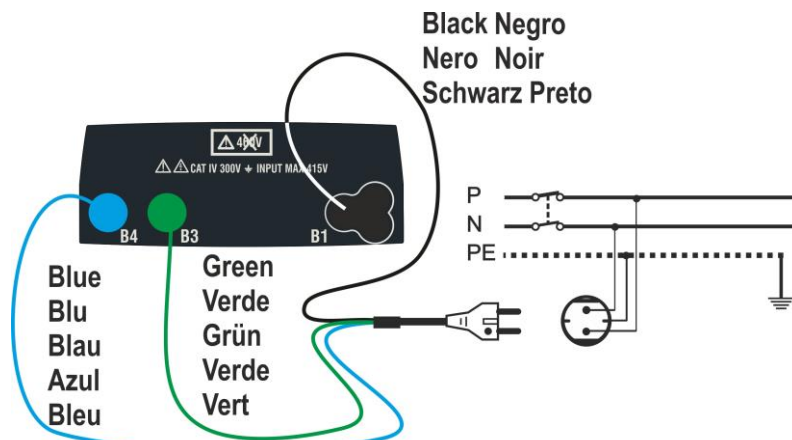
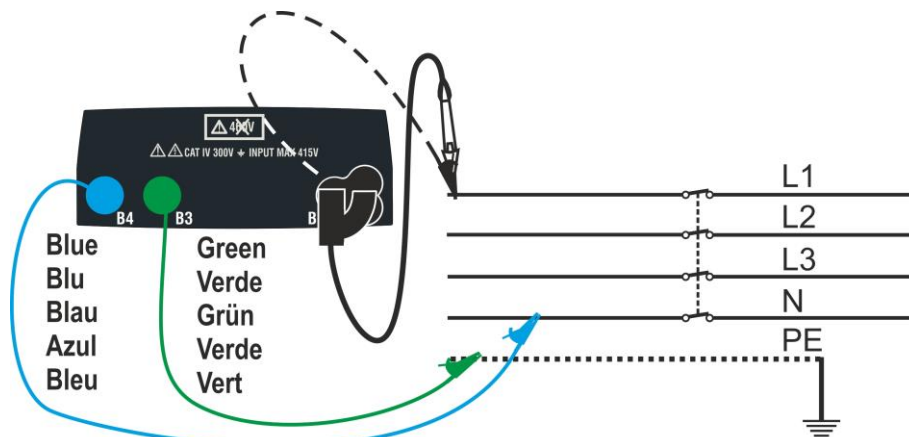

Fig. 6: Instrument connection through Mains Plug
Fig. 7: Instrument connection by means of single cables and remote lead
2. Insert the green, blue and black connectors of the three-pin shuko cable into the corresponding input leads B1, B3 and B4 of the instrument. As an alternative, use the single cables and apply the relevant alligator clips to the free ends of the cables. It is also possible to use the remote lead by inserting its multipolar connector into the input lead B1. Connect the shuko plug, the alligator clips or the remote lead to the electrical mains according to Fig. 6 or Fig. 7